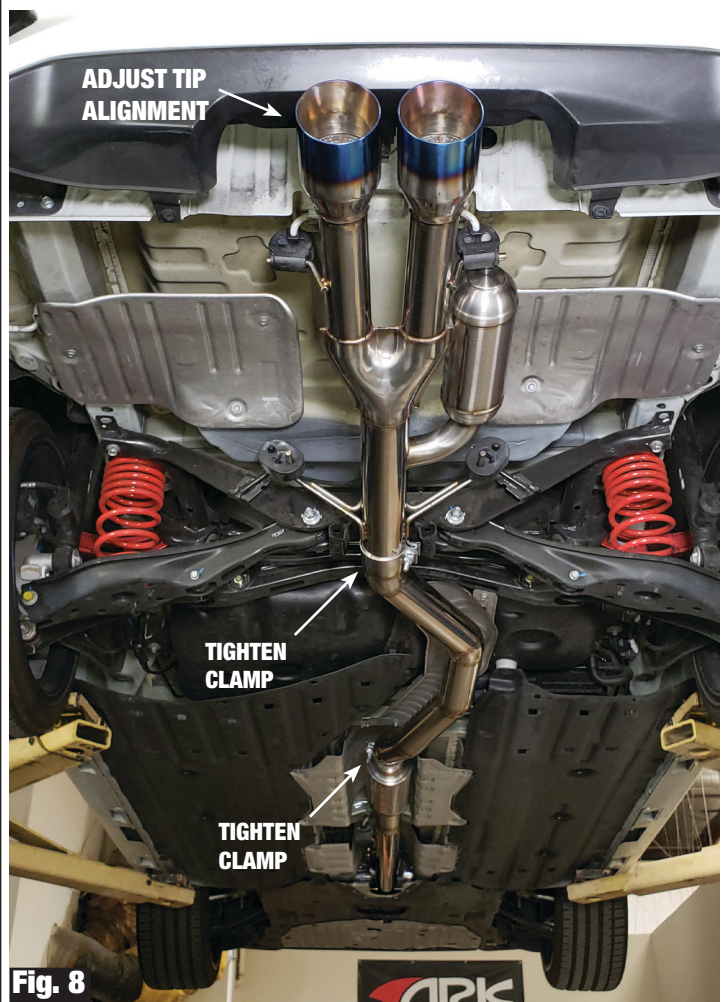

Fig. 8
5. Before tightening the clamps, adjust the alignment of the exhaust tips. Once the tips are properly aligned to your satisfaction, slowly tighten the two clamps on the mid pipes using the 15mm socket wrench. (See Fig. 8)